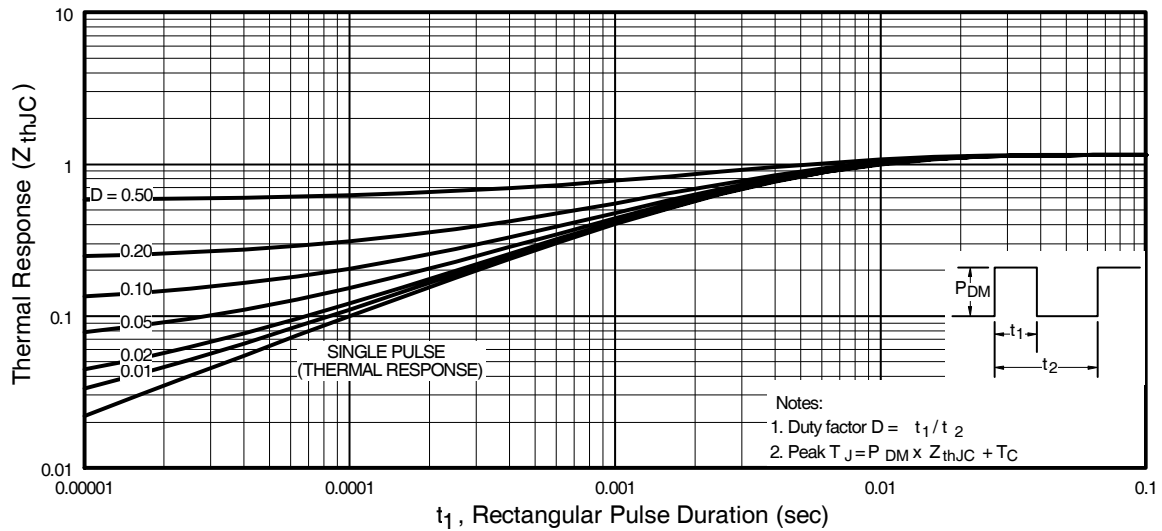

Fig 11. Maximum Effective Transient Thermal Impedance, Junction-to-Case
- ① Repetitive rating; pulse width limited by max. junction temperature. (See fig. 11)
- ② Starting T_J = 25°C, L = 0.37mH